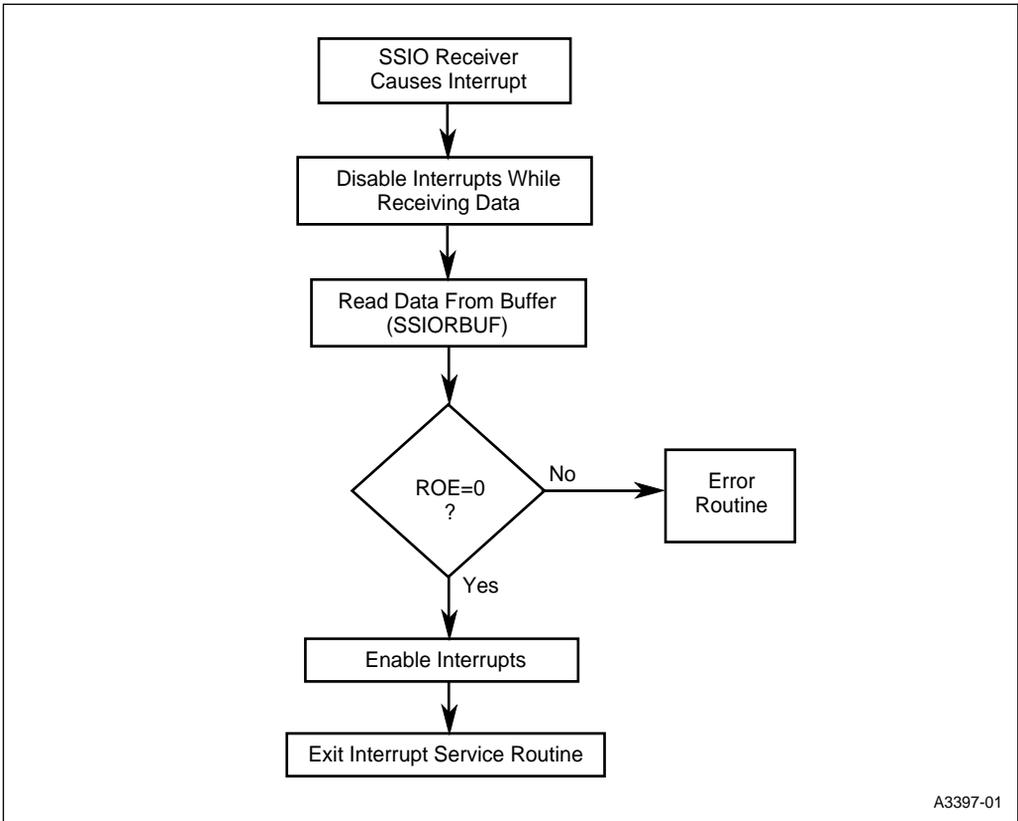

Figure 13-13. Interrupt Service Routine for Receiving Data Using Interrupts
- Figure 13-13 shows a basic flowchart for the Interrupt Service Routine necessary when using interrupts to receive data through the SSIO. If interrupts are used, follow the below sequence for initialization: